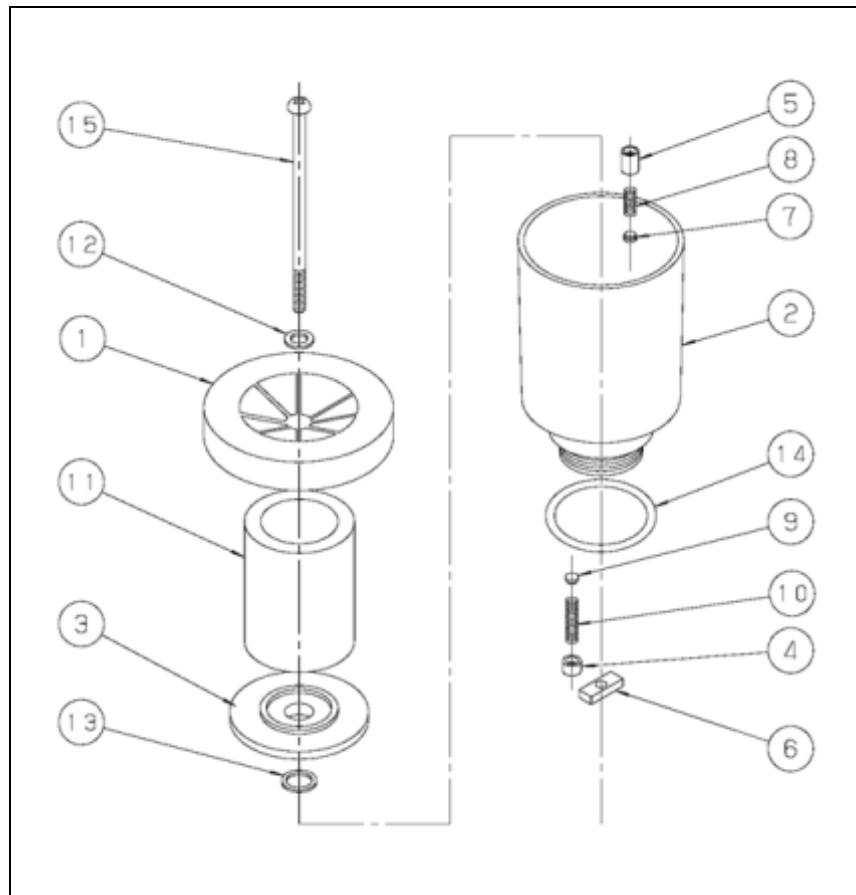

Figure 4 Oil Mist Trap Components
The number in the circle indicates parts of Oil Mist Trap Components (Fig. 4).
- 14 See Fig. 4 and Table 2.
- 15 Turn screw ⑮ counter clockwise with a screwdriver.
- 16 Remove screw and then remove the seal washer ⑫.
- 17 Remove the top cover ①.
- 18 Remove the element ⑪ and then remove the element stopper ③ and the gasket ⑬ from case ②.
- 19 Put the element stopper ③ on the gasket ⑬.
- 20 After replacing the element ⑪ with the new one, put the element ⑪ on element stopper ③.
- 21 Put top cover ① on element ⑪.
- 22 Then put the screw ⑮ into the seal washer ⑫ and fix Case ②.
- 23 Put screw ⑮ into the case ②.